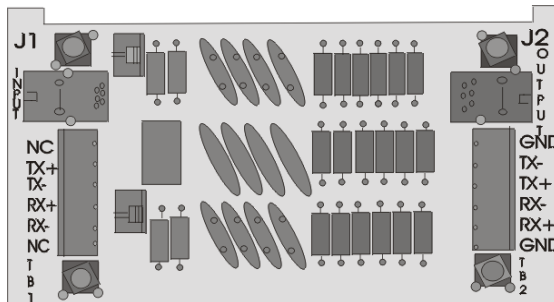

Figure 38: Surge Suppressor, RS422
1. Disconnect the signal connections (Refer to **Figure 38** above).